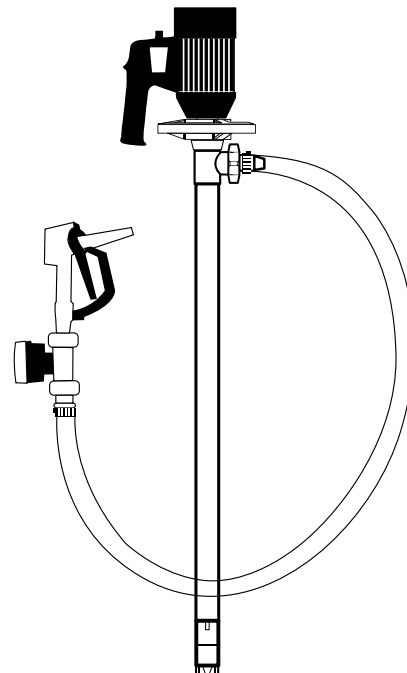

Figure 14
1. Once pump and flow meter (see Figure 14) are fully assembled and all connections are securely fastened, insert the pump into the drum of liquid.